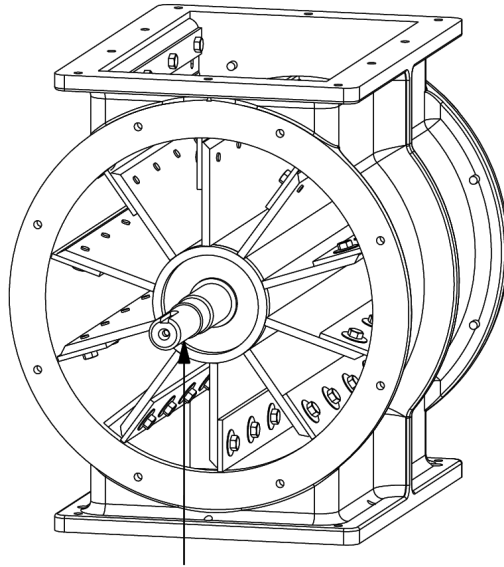

Figure 7-8: Removal of end plate and shaft support
- c. Carefully remove the end plate from the airlock and support the rotor shaft. Reference **Figure 7-8**.